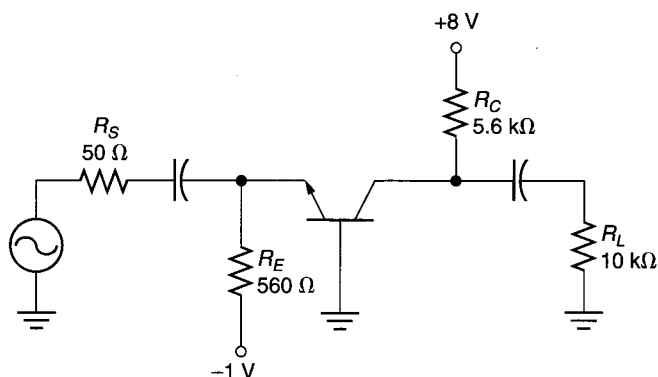

FIGURE 10.29
24. Determine the value of  $A_v$  for the amplifier in Figure 10.29.
26. Determine the values of  $Z_{in}$  and  $Z_{out}$  for the amplifier in Figure 10.29.